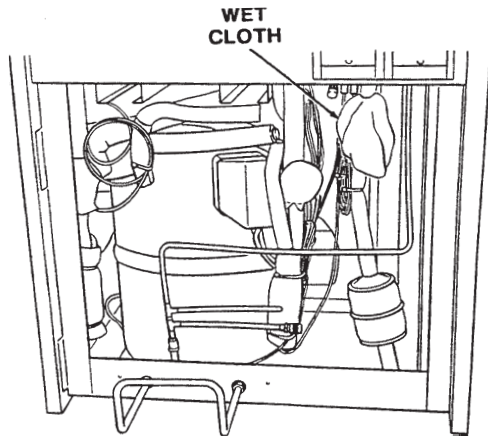

Figure 41. E.P.R. Valve and Lines
1. Position the E.P.R. valve, with heatsink, so hopper evaporator outlet line and the line leading to the low side of the system correspond with the proper valve ports (Figure 41).